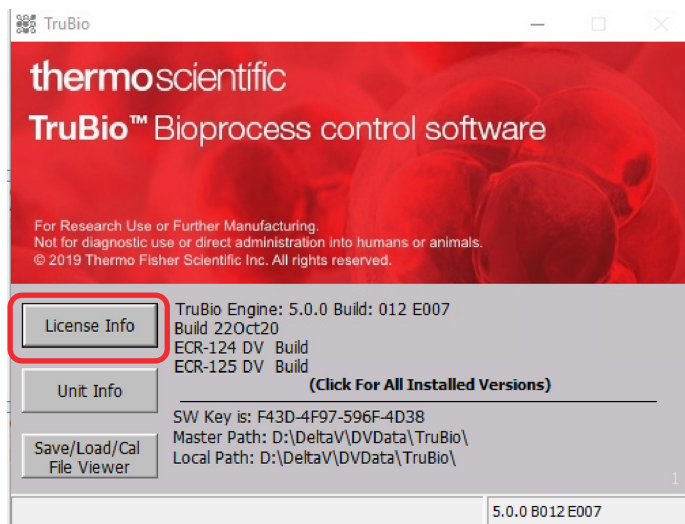
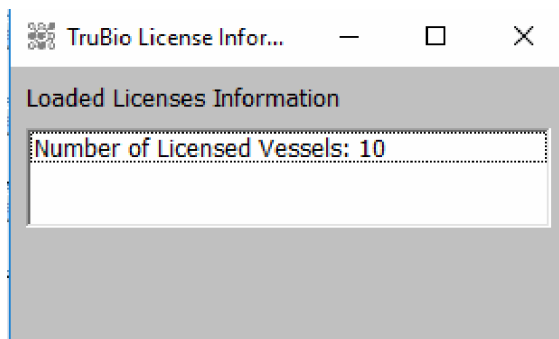

Figure 1.5. TruBio Engineering window on the ProPlus station.
Figure 1.6. TruBio License Information window.
2. This displays the TruBio Engineering window. Select **License Info** (Figure 1.5) to display the current licensing information for the system (Figure 1.6).